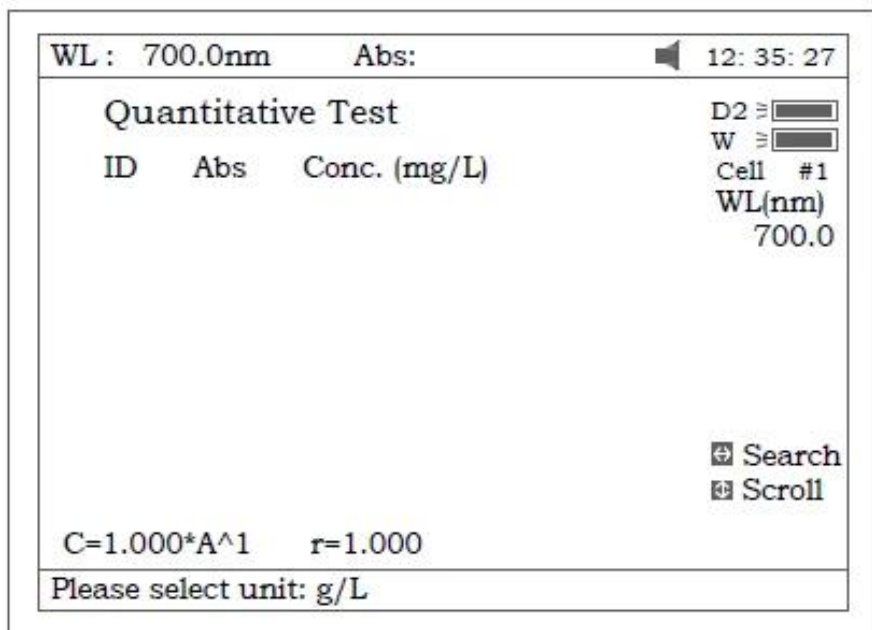

Figure 27
1. Press **【F1】** to select unit of concentration (Fig 27).